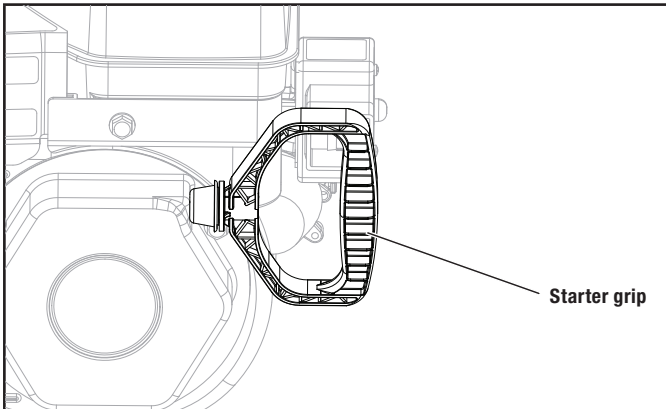

Figure 13C
- Stand back and to the right of the unit, pull the starter grip lightly until you feel resistance then pull briskly. Return the starter grip gently (Fig. 13C).